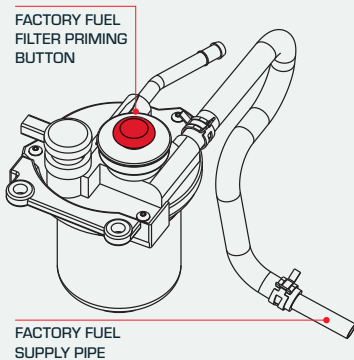
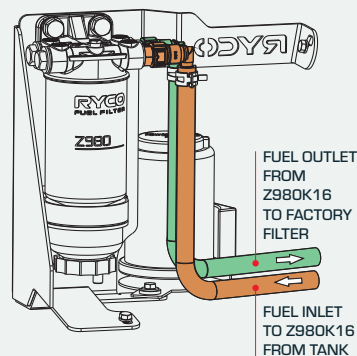

FIGURE 5
FIGURE 6
- 3 Locate the factory fuel filter on the passenger side of the engine bay. Locate the factory fuel inlet hose at the factory fuel filter. Loosen the factory fuel hose clamp and disconnect the fuel supply line from the factory filter, as per Figure 5. Have a rag ready to capture any diesel that may spill out of the fuel line and the fuel filter.
- 4 Trace the other end of the fuel supply line and disconnect it from the metal factory fuel supply pipe, as per Figure 5. Remove the factory fuel supply line from the vehicle and store for safe keeping. Have a rag ready to capture any diesel that may spill out of the fuel lines.
- 5 Mount the Z980K16 fuel filter assembly onto the metal bracket facing the rear of the engine bay using the two (2) black M10 bolts and washers supplied with the Z980K16.
- 6 Connect one of the supplied fuel hoses to the inlet port of the Z980K16 (coloured brown in Figure 6) by pushing the elbow connector onto the metal quick connector until you hear a 'click', and route the other end over the ABS pipes toward the rear of the engine bay up to the back corner. From the corner, run the hose behind the brake booster and along firewall to the passenger side of the vehicle, running under the heater hose bracket. Complete the routing by running the hose to the factory fuel supply pipe and connecting with a hose clamp. See Figure 7 for hose routing.
- 7 Connect the second hose to the outlet port of the Z980K16 (coloured green in Figure 6) by pushing the elbow connector onto the metal quick connector until you hear a 'click', and route the other end under the ABS pipes and up to the back corner of the engine bay. Route the remaining fuel hose similar to the other fuel hose as per Figure 7. Connect the end of the fuel hose to the factory fuel filter inlet port and secure with a hose clamp.